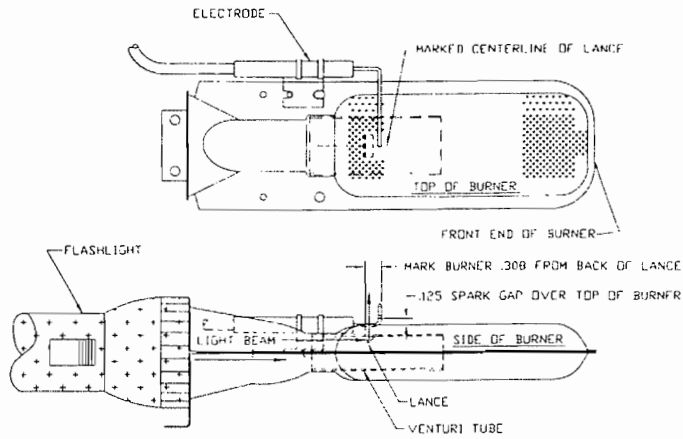

Figure 5
1. Remove burner from combustion chamber by removing six (6) screws which attach the burner to the chamber and air baffles (plates).
- b. Light will reflect off the lance in the venturi of the burner and shine through a portion of the two (2) rolls of burner ports in the top of the burner.
4. Adjust electrode so the electrode probe is positioned along the marked center line of the burner lance and the tip of the electrode terminates 3/16" from the back of the lance. (At the line marked in Step 2-c.) (See Figure 5.)